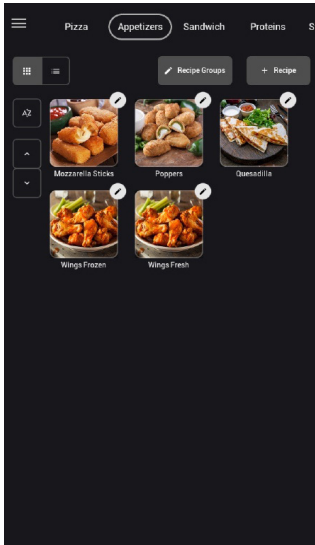

Figure 31: Select Recipe to Edit
3. Touch the Edit Pencil button for the group you want to edit (Figure 31 above).